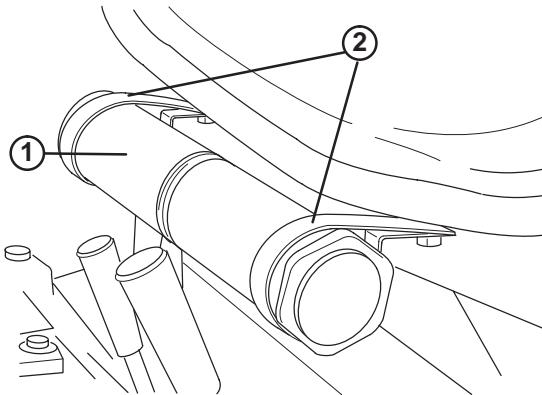

**Figure 8**
7. Adjust seat for operator's comfort and weight. To adjust seat fore and aft, pull handle on left side of seat assembly outward (Fig. 8). Release handle to lock seat
position. To adjust for operator's weight, turn spring tension knob; clockwise to increase tension, counterclockwise to decrease spring tension (Fig. 8).